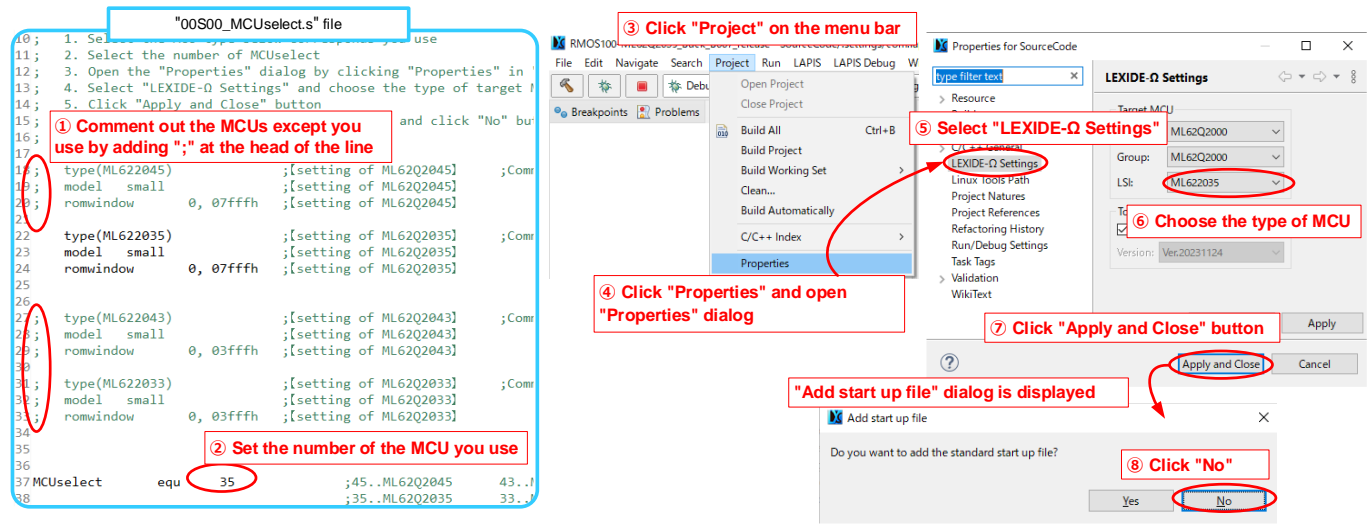

Figure 4-1. Model number change of MCU
When changing the model number of the MCU to be used, perform editing according to Figure 4-1.
Note: If you mistakenly clicked "Yes" in step ⑧, a "ML6220xx.ASM" file is generated in the "SourceCode" folder. If you run a build in this state, an error message is displayed. Therefore, be sure to remove the "ML6220xx.ASM" file before running the build. If the files have been deleted, you do not need to perform Figure 4-1 step again.